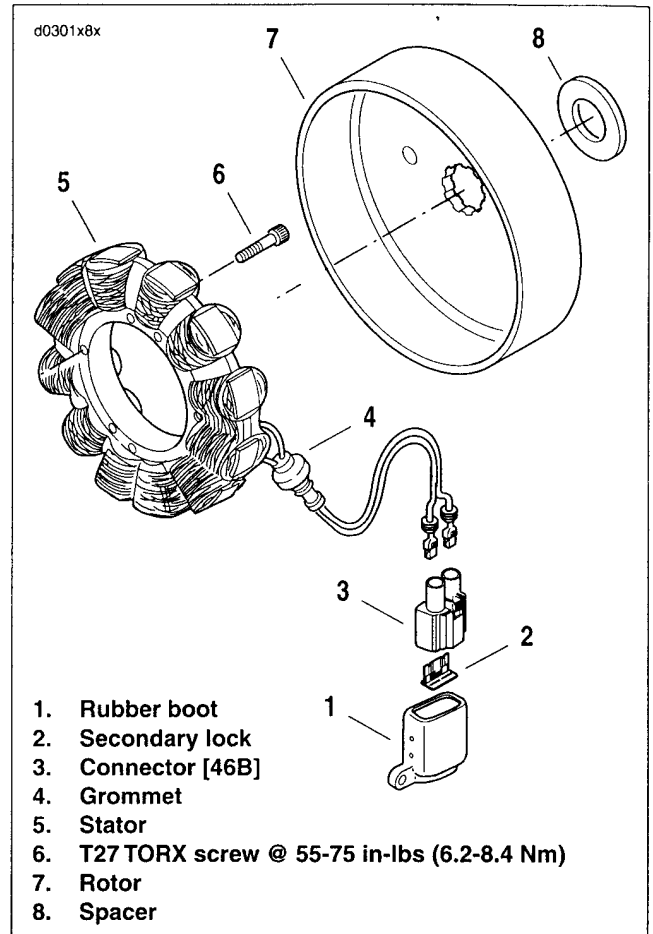

Figure 8-26. Rotor and Stator Mounting
2. See Figure 8-26. Pull off the alternator rotor (7) using two bolts inserted through the holes in the rotor face. Remove the spacer (8).
3. Remove the T27 TORX screws (6). Unplug the voltage regulator and remove the stator (5).
5. Remove secondary locks (2) and wires (pull) from connector [46B] (3).
2. See Figure 8-26. Push rubber grommet (4) through crankcase hole. If necessary, apply the same lubricant used during removal.
3. Insert wires into connector [46B] (3).
4. Install secondary lock (2) to connector.
5. Mate connector [46]. Slide rubber boot (1) over connector [46] and install connector/boot assembly to front engine mount screw.